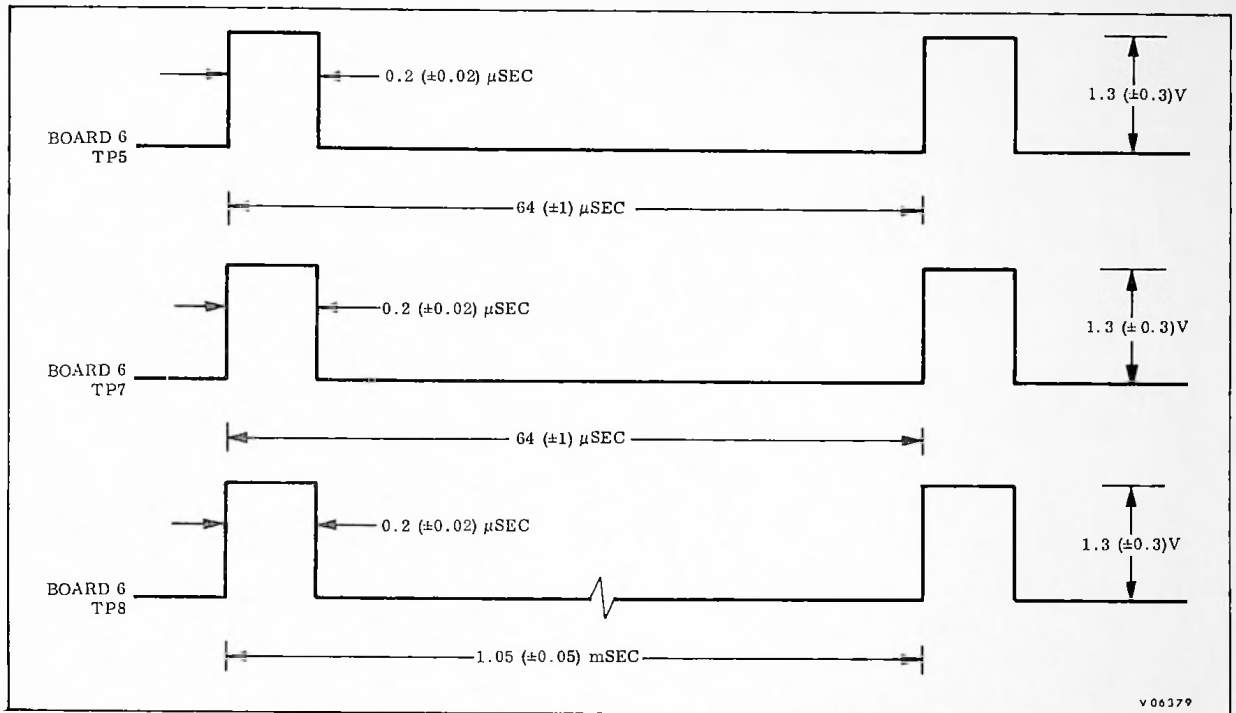

Figure 5.2-10. Timing Ring Output Waveform
- a. Sync the oscilloscope externally (-) from TP011 (system), and connect the probe to TP5 of board 6. The waveform should resemble that shown in Figure 5.2-10.
- b. Connect the probe to TP7 of board 6. The waveform should resemble that shown in Figure 5.2-10.
- c. Connect the probe to TP8 of board 6. The waveform should resemble that shown in Figure 5.2-10.